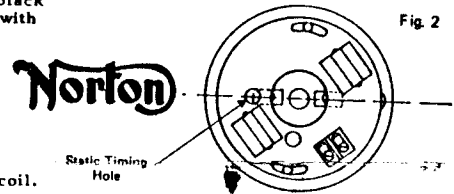

Fig 2
- 8) The magnet on one side of the rotor should now be in the centre of the top timing hole in the stator plate with it adjusted half way along its adjustment slots. If not move rotor until this is so without turning the engine from 31 B. T. D. C. See fig 2.